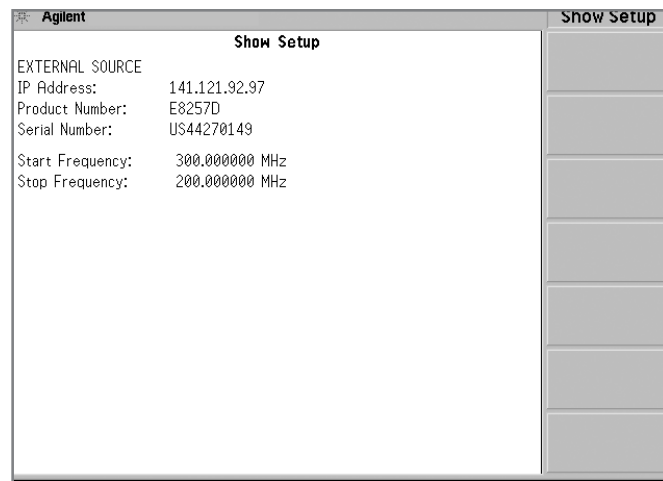

Figure 15. Source set up status showing the reverse sweep (Note: start frequency > stop frequency)
- {Ext Src Config} {Show Setup}, you’ll see the source information including start frequency = 300 MHz and stop frequency = 200 MHz as shown in Figure 15.